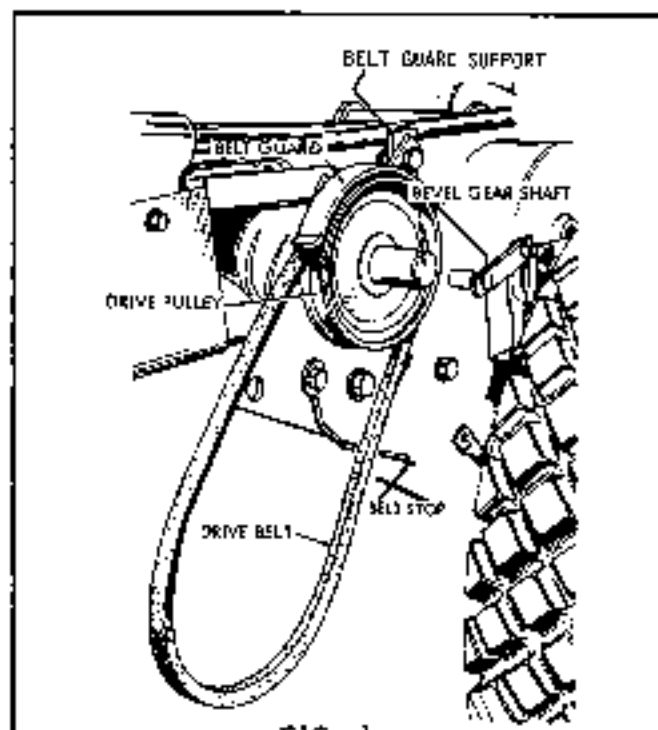

FIG. 1
5. Mount drive pulley to shaft of bevel gear assembly (Fig. 1). Hub of drive pulley is to face
6. Attach the belt guard to the guard support as shown in Fig. 1. Allow approximately $3/16$ " clearance between belt and guard.